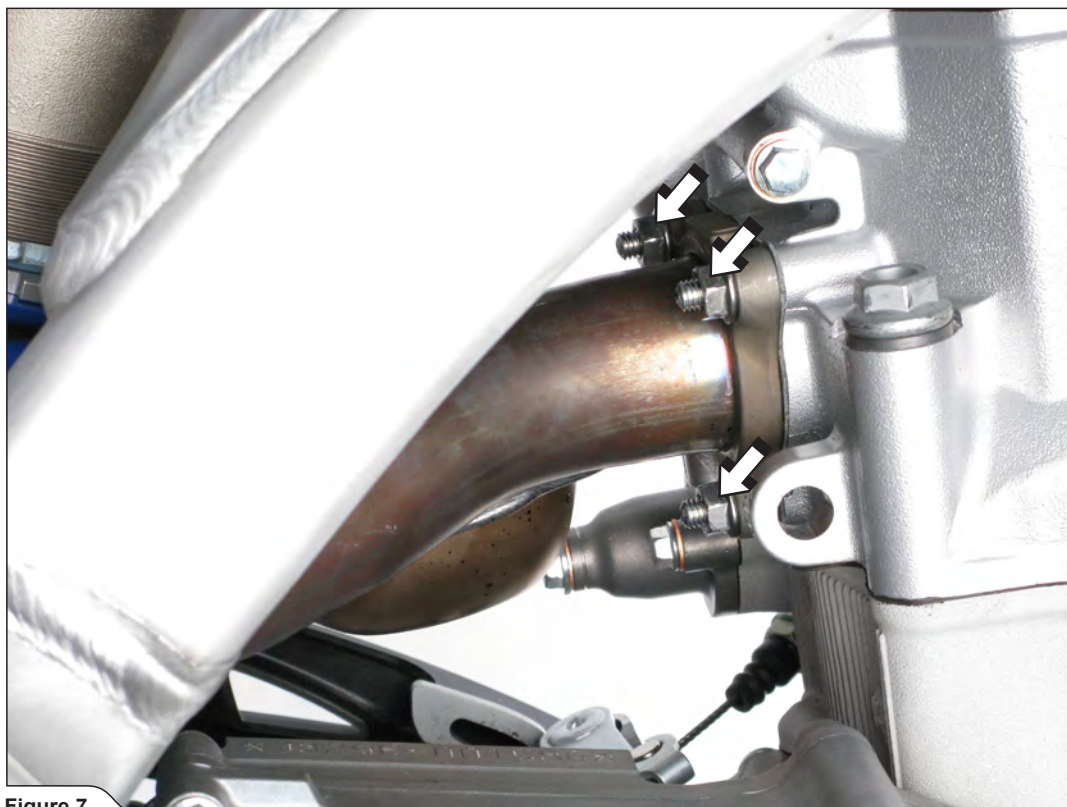

Figure 7
8. Unscrew the marked nuts and remove the stock header pipe off the motorcycle (Figure 7).